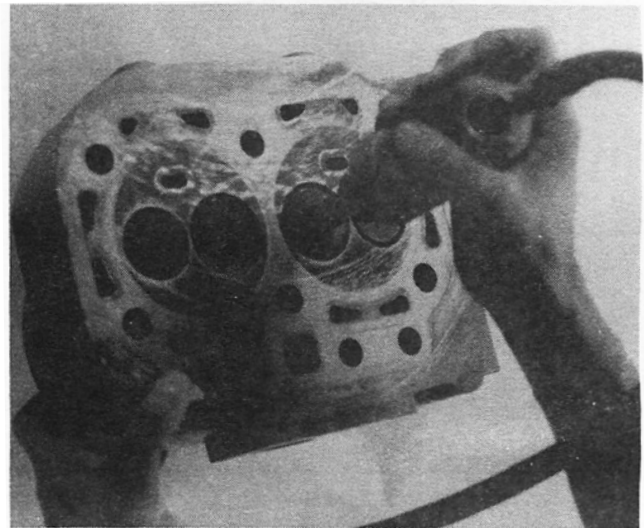

Figure 13
6. Check the valve seat contact by applying compound on the valve seat and then rotate the valve, Figure 13. Check that the valve contacting width is within the specified limit and that the contact is even.